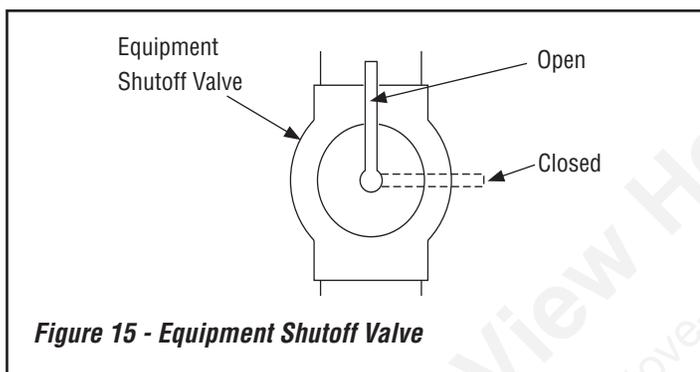

Figure 15 - Equipment Shutoff Valve
1. Close equipment shutoff valve (see **Figure 15**).
1. Open equipment shutoff valve (see **Figure 15**).
3. Close equipment shutoff valve (see Figure 15, page 13).